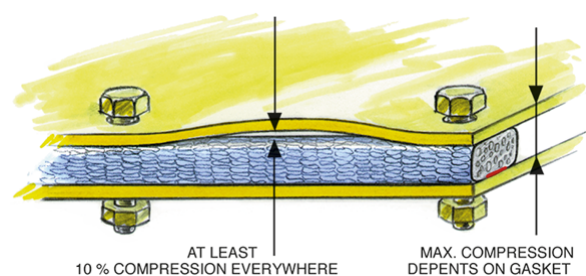

Figure 24.1 : Note that the pressing force on the panels of the housing is not too large
- **LEVEL III A** Seams (*fig. 24.1*) **26 / 32**